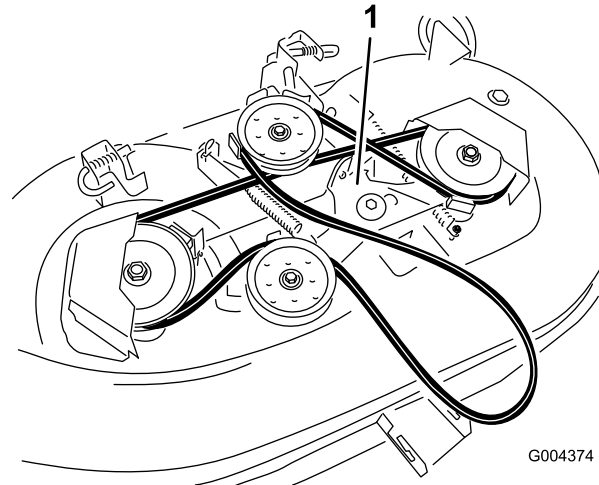

Figure 2
3. Insert a 3/8-inch drive breaker bar into the 3/8-inch square hole of the idler bracket, relieve the tension in the deck drive belt, and work the belt off the engine pulley (Figure 2).